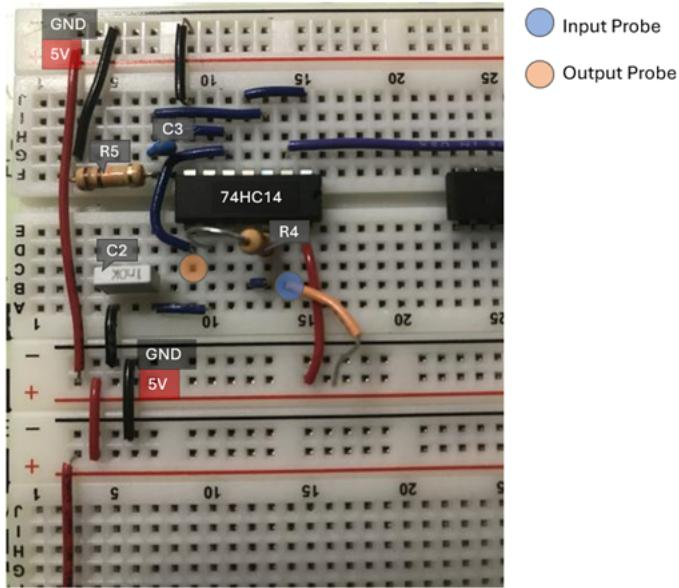

Figure 4: Setup of delay and reset circuit on breadboard for measuring delay generated by delay circuit
- I built the delay and reset generator circuits around one inverter IC, like in Figure 3 and with the setup in Figure 4